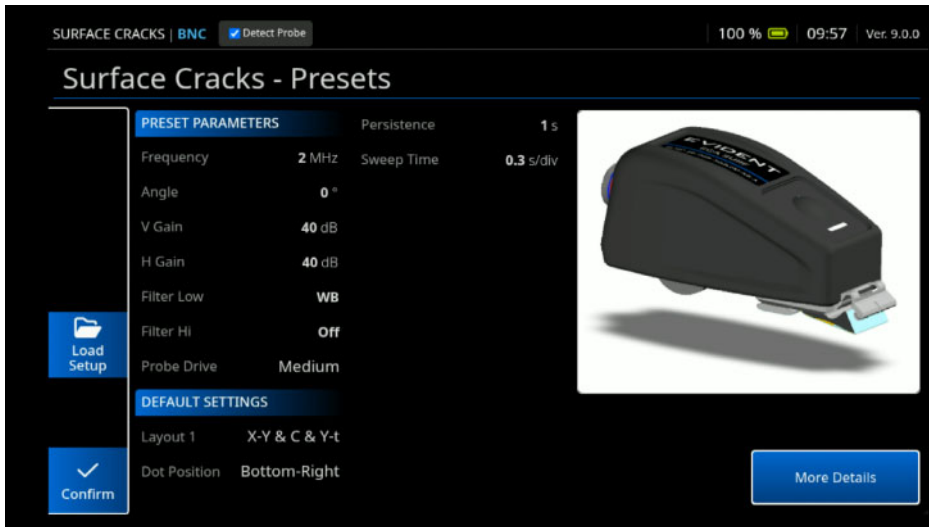

Figure 4-4 Surface Cracks Presets with ECA
2. Press **Confirm** to launch the SURF-026-008-300k03M-AB-A base use case (See Figure 4-4 on page 126).